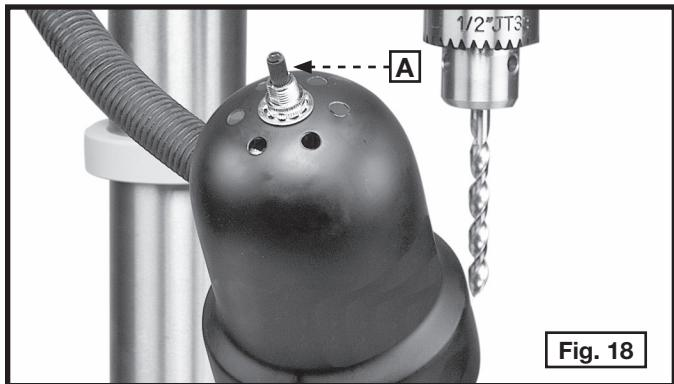

Fig. 18
The flexible lamp operates independently. To turn the lamp "ON" and "OFF", rotate the switch (A) Fig. 18.